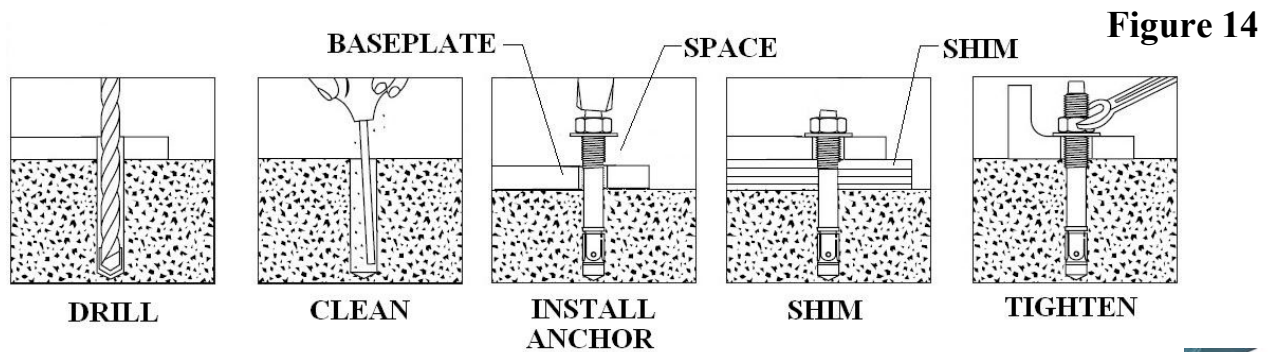

**Figure 13**
- Use a straight edge (string line) along front side of beams along with 1/8” column shim provided and ensure equal spacing throughout entire area of both beams (**Fig.13**). Rotate the columns if required to make cross-members parallel.